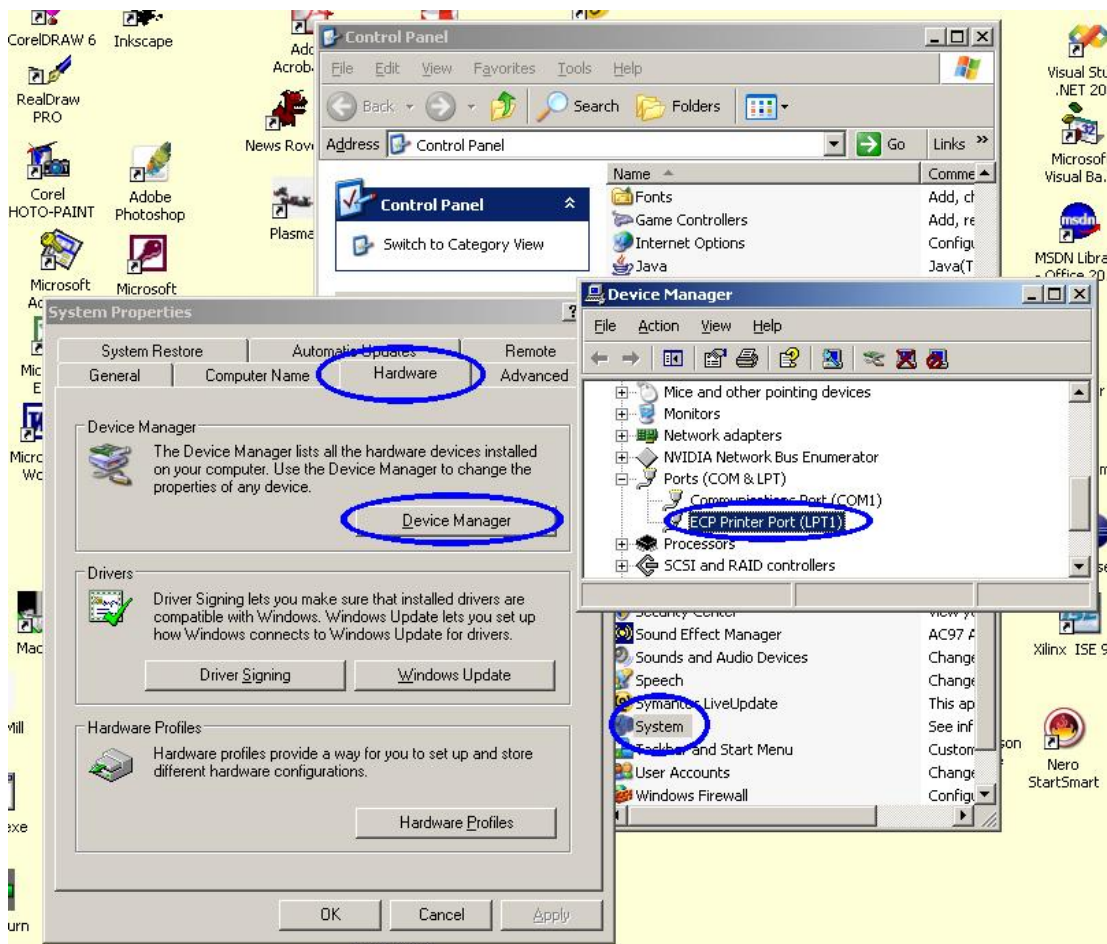

Figure 9.13 – Finding printer port
6. Find the “Ports (COM & LPT)” icon and click on the plus sign (figure 9.13 shows the result of these steps).